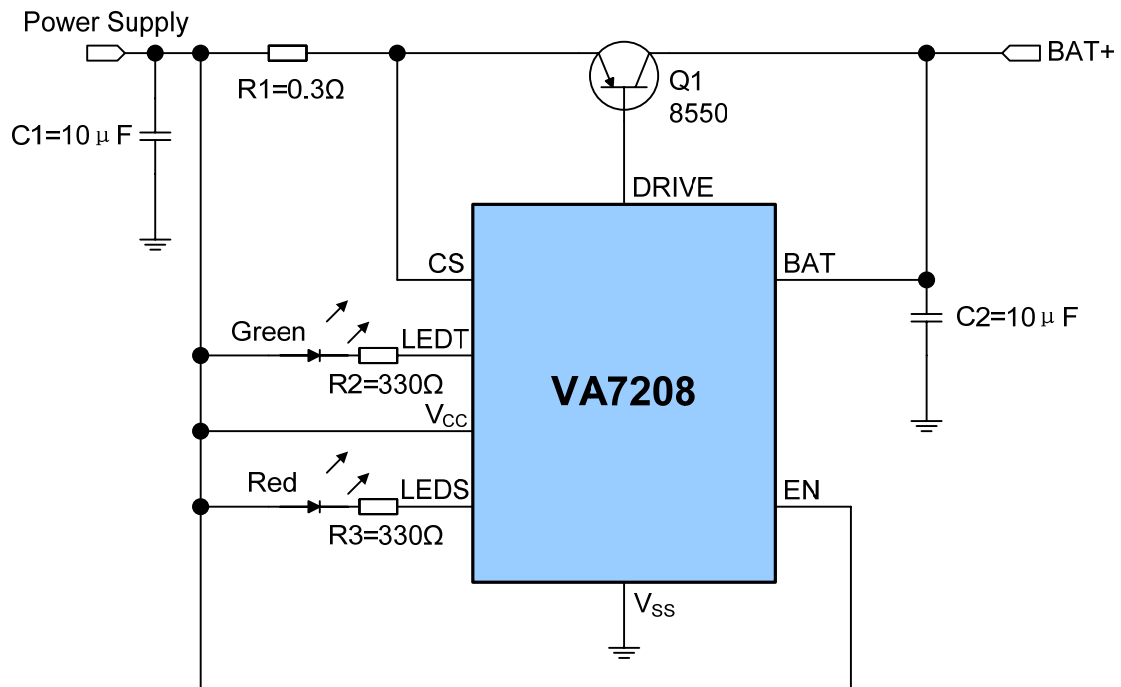
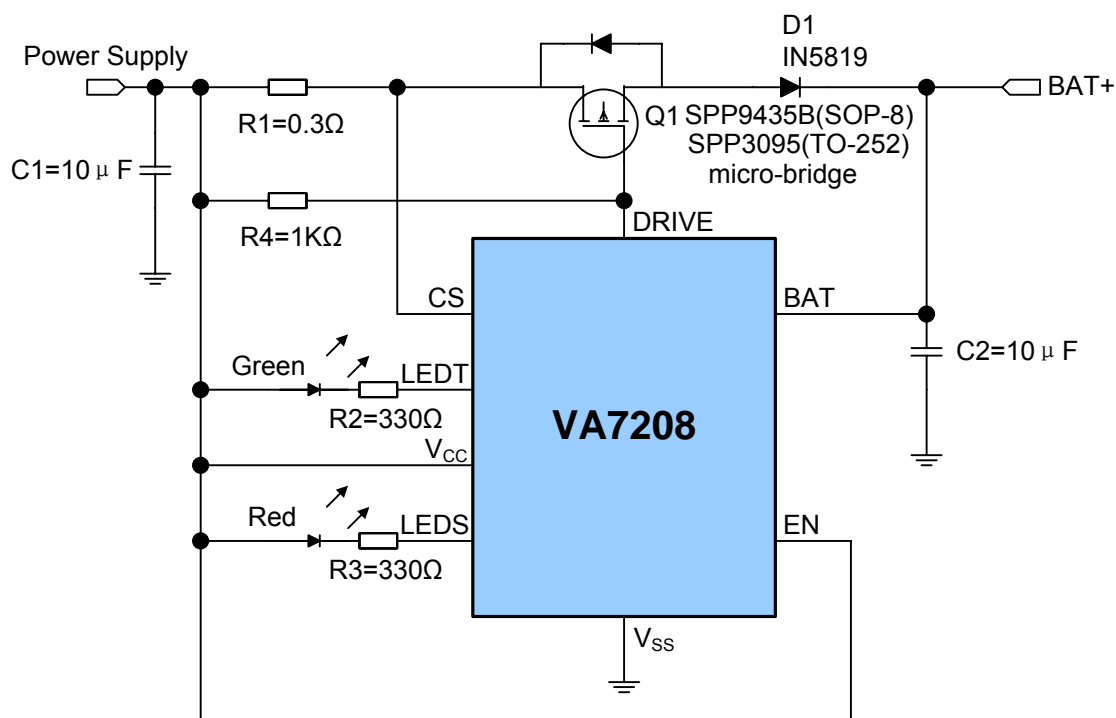

Figure 3 Li-ion and Li-Polymer Charger Using a PNP
Figure 5 Li-ion and Li-Polymer Charger Using a PMOS
2. Please use application circuit schematic in figure 3 and figure 5.